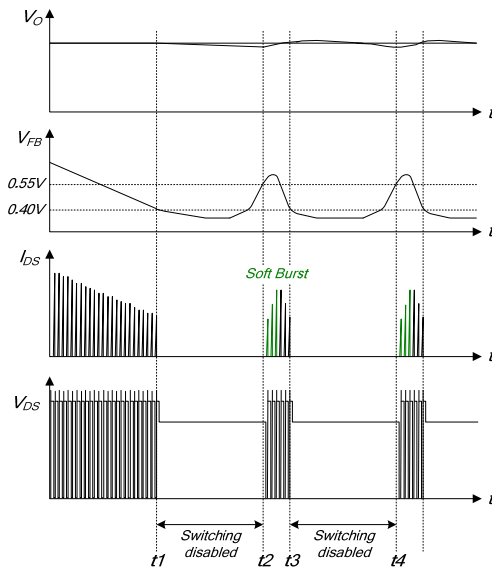

Figure 22. Burst-Mode Operation
5. Soft Burst-Mode Operation: To minimize power dissipation in Standby Mode, the FSL128MRT enters Burst-Mode operation. As the load decreases, the feedback voltage decreases. The device automatically enters Burst Mode when the feedback voltage drops below V_{BURL} (400mV), as shown in Figure 22. At this point, switching stops and the output voltages start to drop at a rate dependent on standby current load. This causes the feedback voltage to rise. Once it passes V_{BURH} (550mV), switching resumes. The feedback voltage then falls and the process repeats. Burst Mode alternately enables and disables switching of the SenseFET, reducing switching loss in Standby Mode.